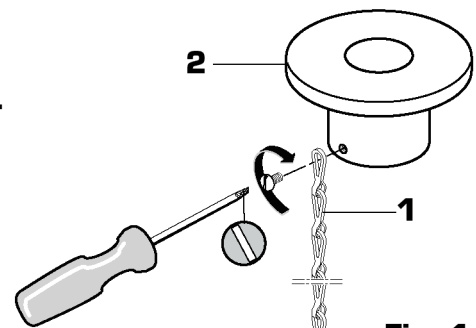

Fig. 1
- Unthread BATTERY HOLDER CAP (3). Install four high-quality mercury and cadmium-free alkaline BATTERIES (4) size C. **NOTE: Positive end of battery should face upward.** Thread BATTERY HOLDER CAP (3) back onto BATTERY CASE (5). Fig. 1.